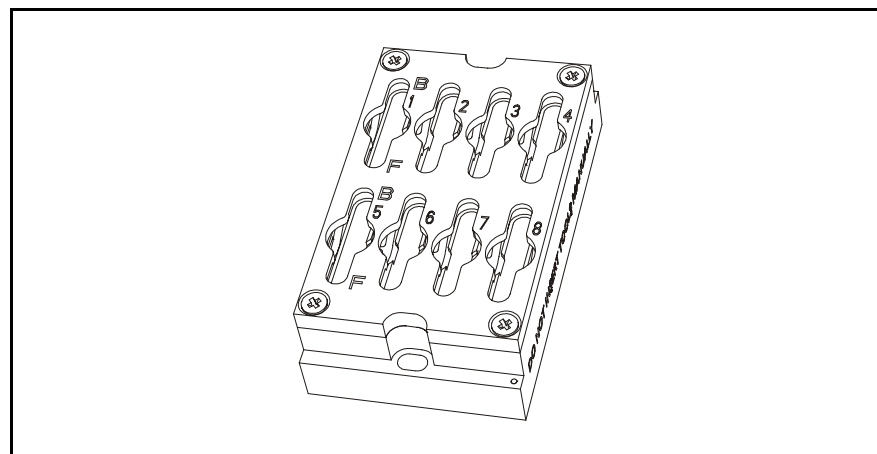

Figure 7-8. PT tool bank
- PT type for 400 PT and 420 PT conveyors, see Figure 7-8.